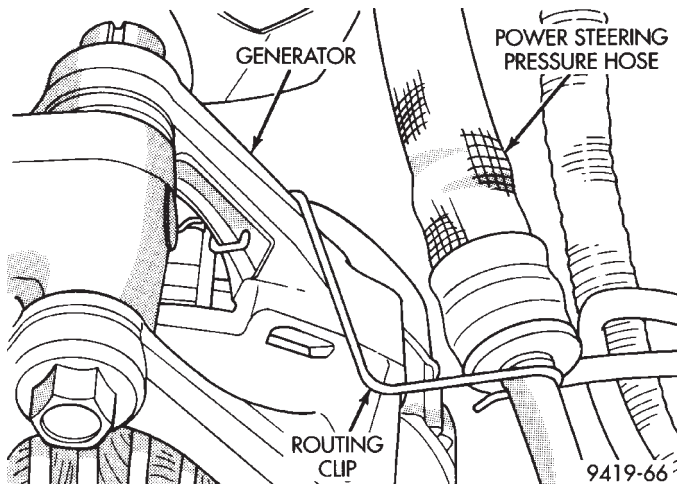

Fig. 9 Power Steering Pressure Hose Routing Clip 3.5 Ltr.
(3) If vehicle is equipped with a 3.5-liter engine, disconnect power steering pressure hose from routing clip at generator (Fig. 9).
(4) Remove the power steering pressure hose from the vehicle.
(5) Discard O-ring at end of tube and/or the washer seal.
CAUTION: On 3.5 ltr engine applications, correct orientation of power steering pressure hose at power steering pump must be maintained. Be sure power steering hose is installed in orientation clip (Fig. 9) at generator, prior to tightening tube fitting. This will maintain the required clearance between the power steering pressure hose and the cam on the throttle body.